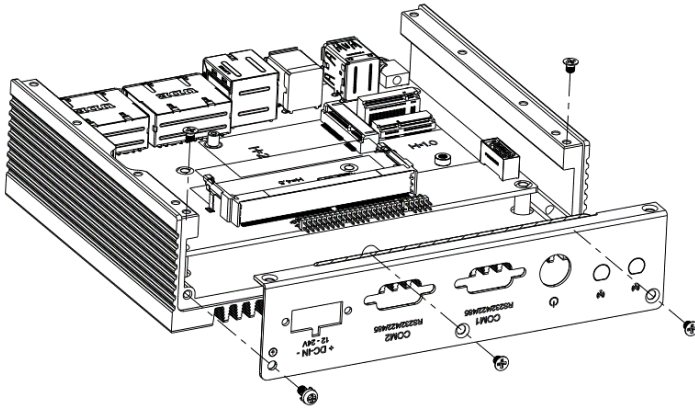

Figure 3.1-2
2. Remove total 4 screws on panel, disassembly schematic diagram as shown in Figure 3.1-2.